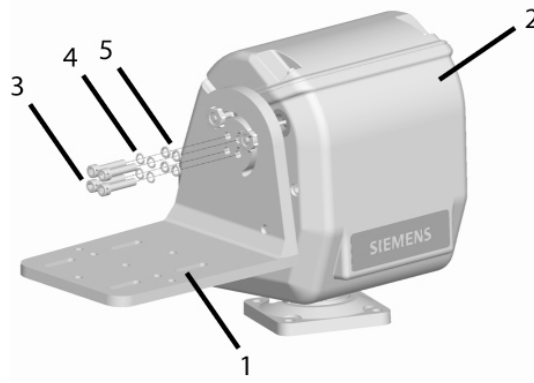

Fig. 8 Side Mount platform attachment
1. Offer the Side Mount platform up to the Pan and Tilt drive unit, lining up the 4 holes in the platform with the holes in the drive output shaft. (see Fig. 8).